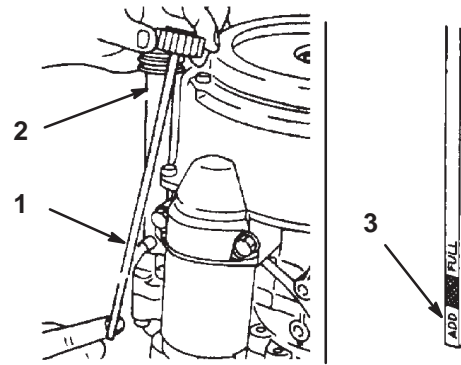

Figure 34
2. Clean around the oil dipstick (Fig. 34) so dirt cannot fall into the filler hole and damage the engine.
3. Unscrew the oil dipstick and wipe the end clean (Fig. 34).
4. Slide the oil dipstick fully into the filler tube, do not thread onto tube (Fig. 34). Pull the dipstick out and look at the end. If oil level is low, slowly pour only enough oil into the filler tube to raise the level to the *full* mark.
6. Slowly pour approximately 80% of the specified oil, on page 30, into the filler cap (Fig. 34). Now check the oil level; refer to Checking Oil Level, page 30. Slowly add additional oil to bring it to the full mark.